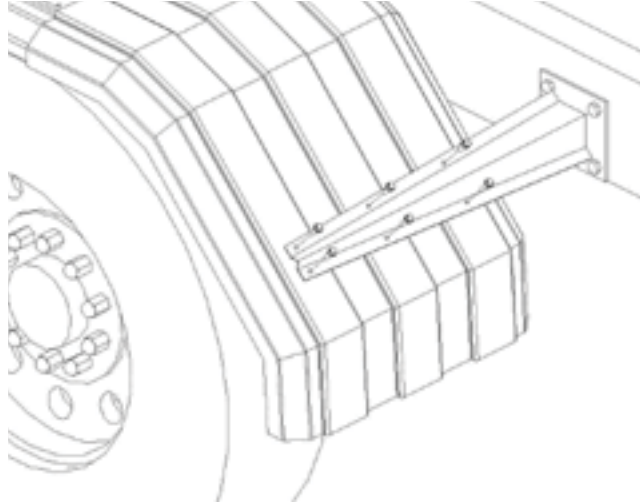

Figure 7
- A. Drill six 5/16" holes thru fender using the holes in bracket PB5010 as a guide. Install the 5/16" x 1" bolts thru the bracket and into the fender. Use six 5/16" body washers and 5/16" nuts provided with kit on the inside of fender. Hand tightening of bolts is suggested. Make sure the fenders are square and aligned. Twists or bows in the fender will fatigue the material over time. See Figure 7.